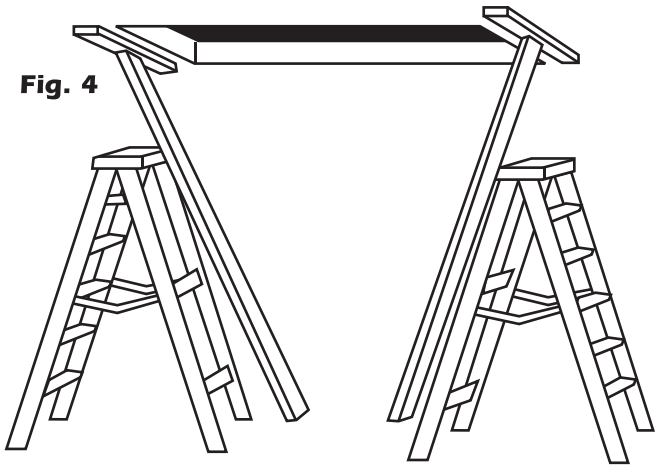

Fig. 4
Step 3- Place two stepladders directly under rough opening with steps facing out on both ladders. Place two "T" stands inside of stepladders. NOTE: Sheet rock jacks can be used in the place of "T" stands. (See Fig. 4)